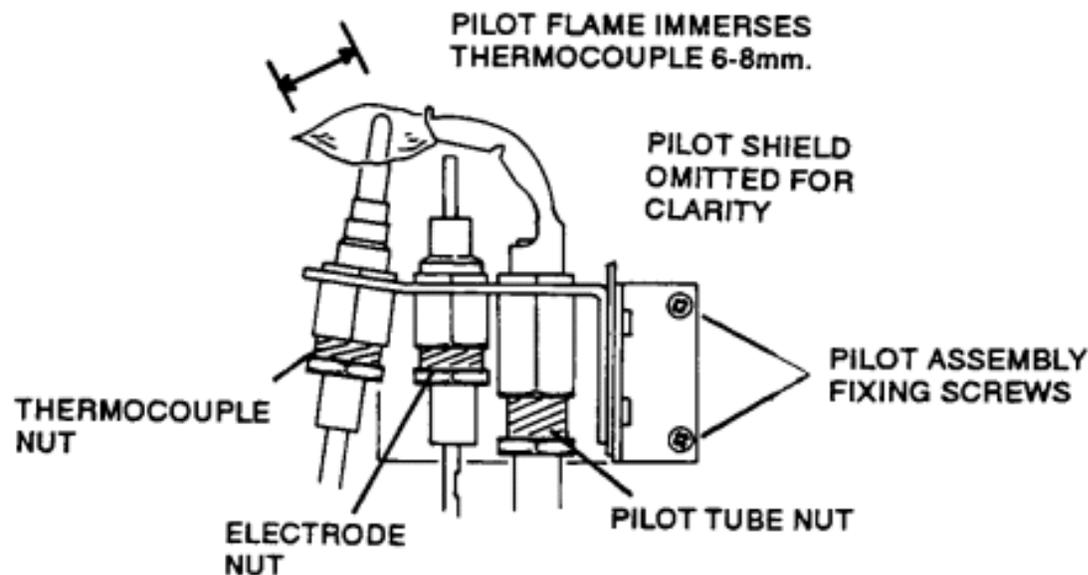

Fig. 14 Details of Pilot Assembly.
- i Check that the pilot flame envelopes the thermocouple tip by 6-8mm (see Figure 14). Refer to the fault finding section if the pilot flame is not satisfactory. Remove the combustion chamber door (see Section 9.1.2) and check for gas soundness at the pilot tube nut on the pilot assembly. Replace the door, ensuring all screws are fully tightened.
- d Reassemble in reverse order (see Section 9.1.8). Check that the electrode gap is 3-4mm (see Figure 14).